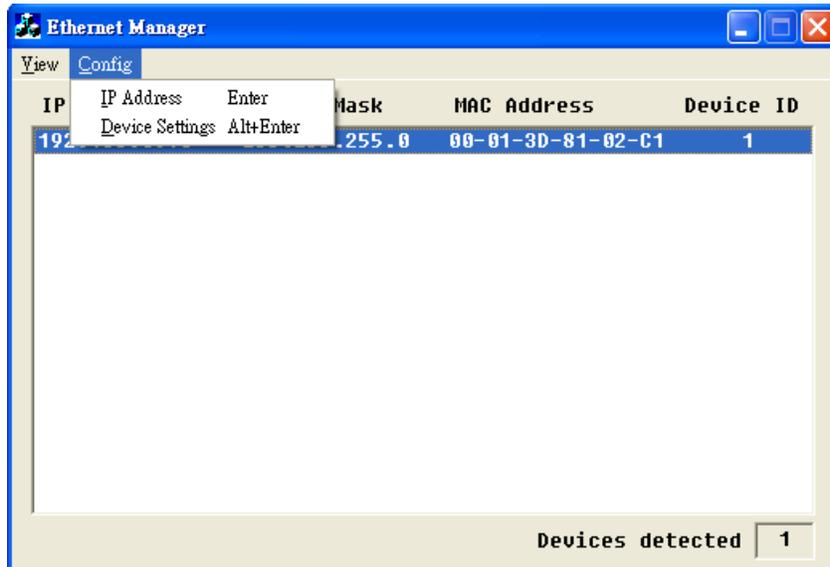

Figure 24
8. To change the Ethernet Card IP address for the network it will be operated on, click Config on ETM screen Figure 24.